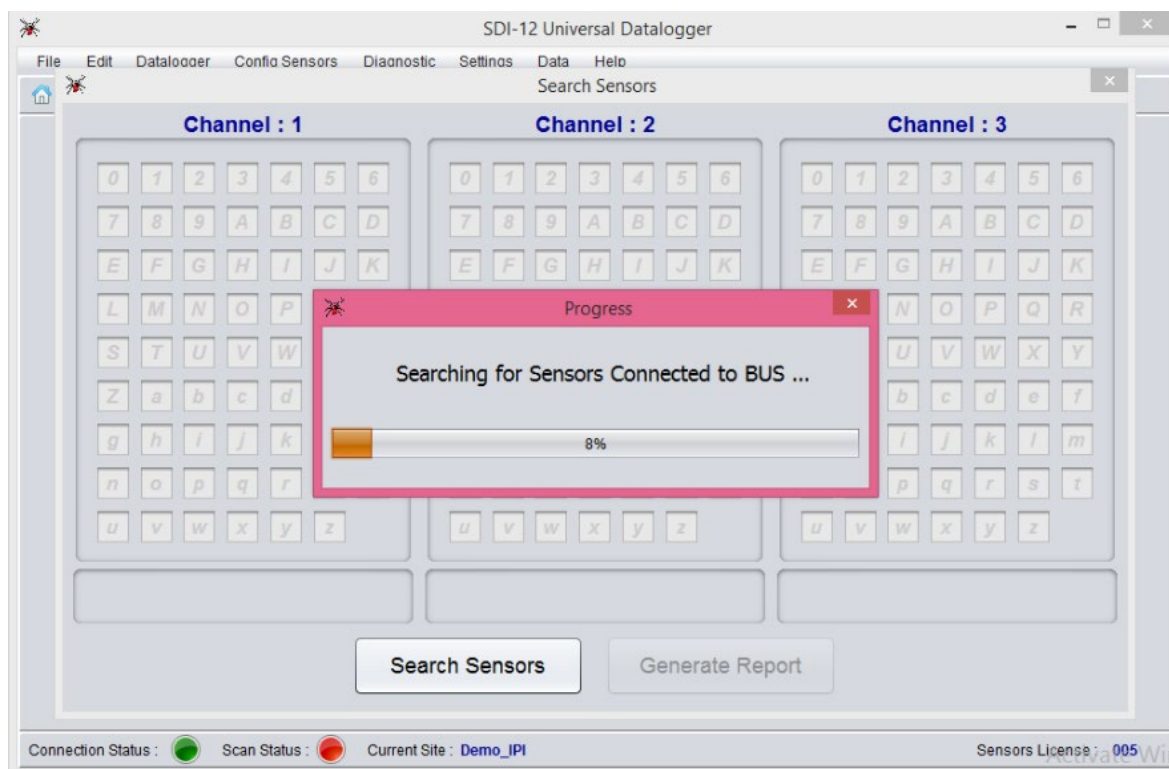

Figure 7-14 Message box showing sensor scan progress
- 13 A message box showing progress of search will appear as shown in figure 7-14 below: